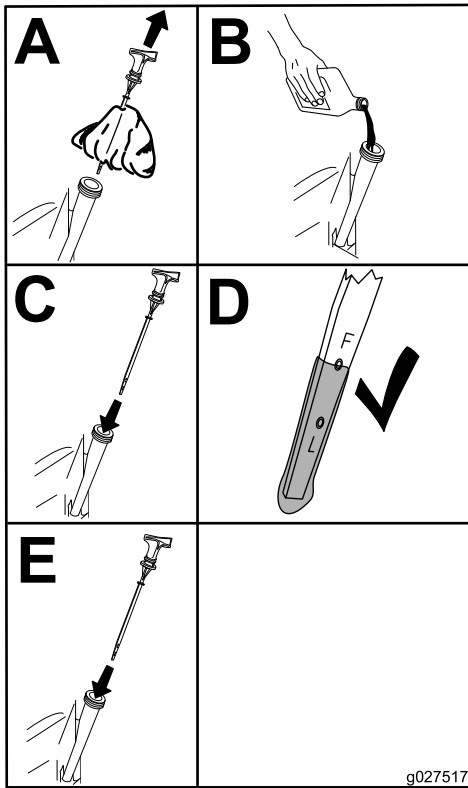

Figure 32
5. Slowly pour approximately 80% of the specified oil into the filler tube (Figure 32).
3. Remove the spark plug (Figure 32).